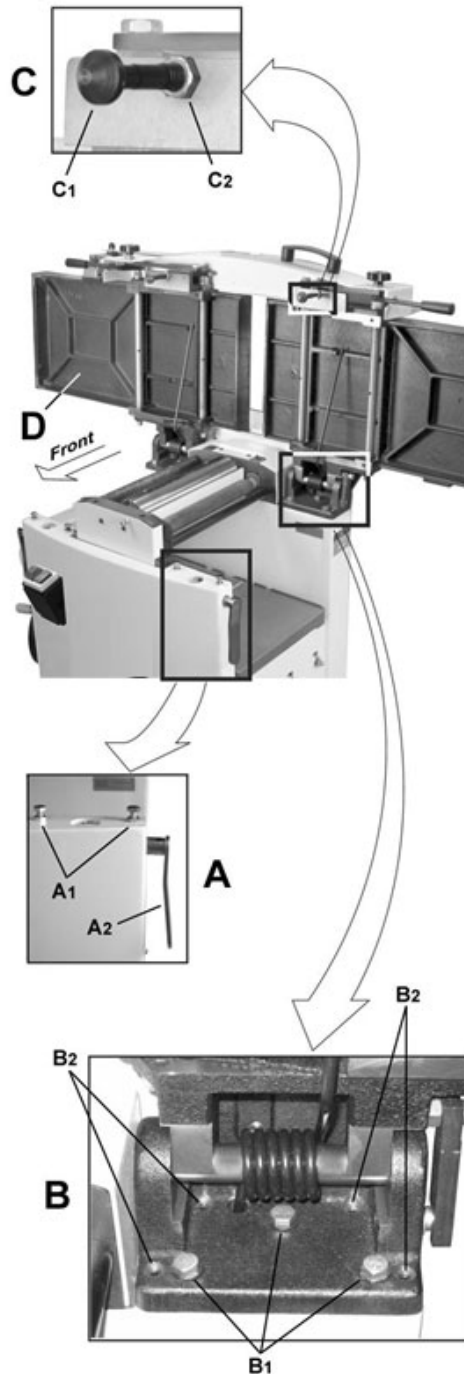

Figure 10
2. Unlock both cabinet lock handles (A2, Fig. 10).
3. Raise the table (D) fully upright.
Refer to Figure 10 on page 12: